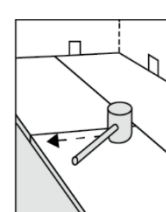

Figure 5
13. Press down firmly on end joint, preferably tapping with a rubber mallet to fully engage short end. (**Figure 5**)